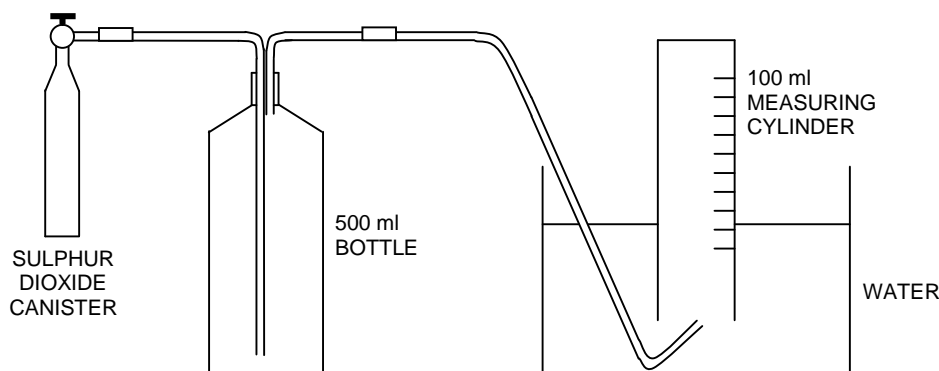

Figure 5 Sulphur Dioxide Method
You will need a gas detection kit, a sulphur dioxide canister (TOXIC), a balance, a stop clock plus the glassware shown in Fig. 5. *Wear eye protection. Sulphur dioxide is a toxic gas, so do not breathe it in.*
- (ii) Set up the apparatus, as shown in Fig. 5, in the fume cupboard. Switch the fume cupboard on.